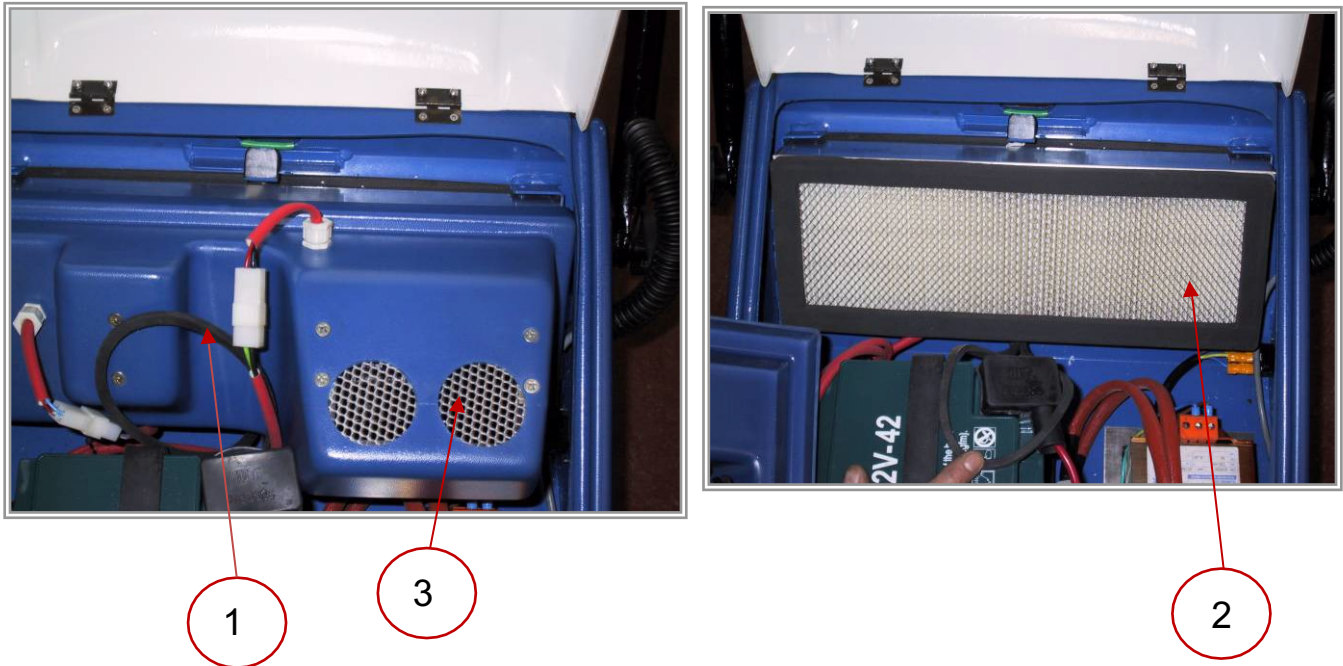

Figure 5.1
- Remove the rubber gasket (figure.5.1).
- Remove filter and clean it with the compressed air. (figure 5.1)
- Check the vacuum motor. (figure 5.1)